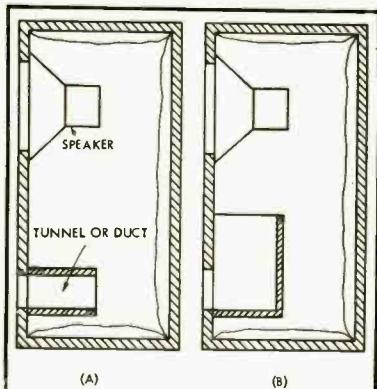

Fig. 13. Cross section of reflex cabinets. (B) shows how the tunnel may be folded.
(1) It is convenient to have the duct extending into the enclosure (Fig. 13), so the volume of the duct must be added to the volume of the enclosure; consequently if the duct length is increased a point will be reached when the decrease in the required cavity volume is being equalled or even exceeded by the increase in the volume of the duct. The optimum duct length for a minimum volume occurs when the length of the duct  $l = \frac{2180}{f} - 1.7R$  where both dimensions are in inches.